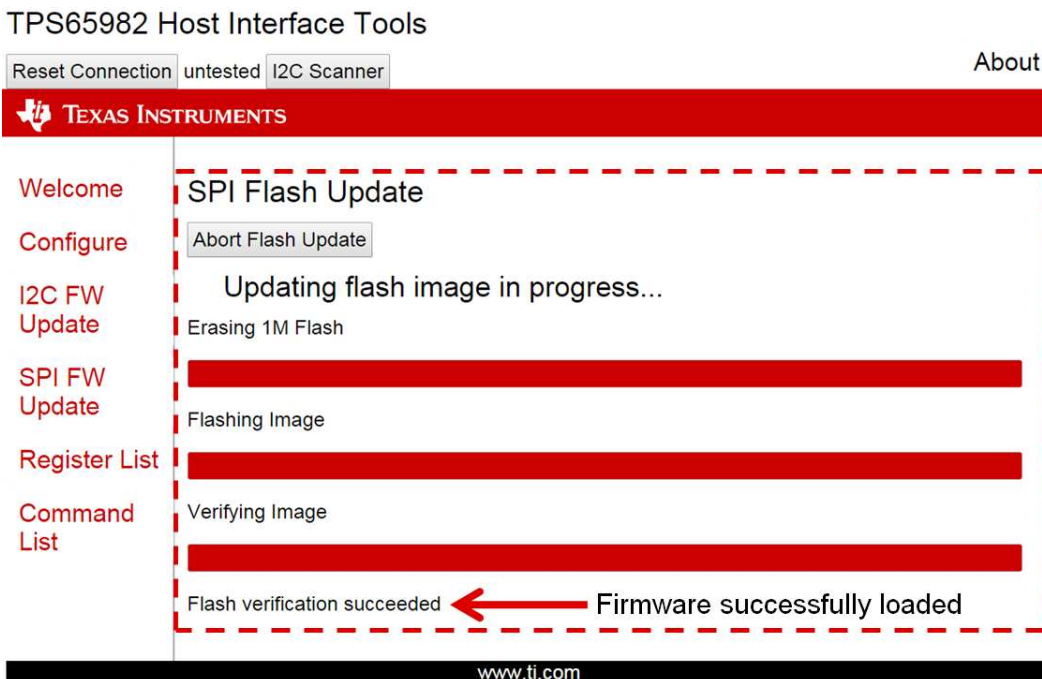

Figure 15. SPI Firmware Update – Firmware Update Complete
Step 8. Wait until the programming process is complete. Verify that the firmware was successfully loaded. Figure 15 shows a successful firmware update.